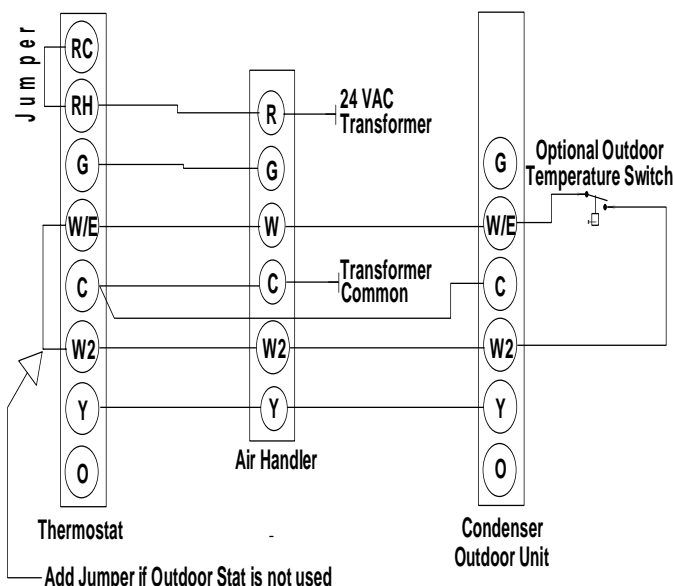

Figure 22: Typical Heat Pump / 2 Stage Heating / Cooling Connections
12. If a two-stage outdoor unit is used then connect the "W2" wire from the outdoor unit to the black wires discussed in step 12 and secure with a wire nut. Refer to Figure 22.